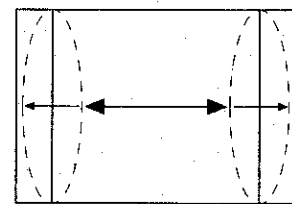

Fig. 4
- d) Adjust the PIN AMPLITUDE to obtain condition as in (fig. 4).